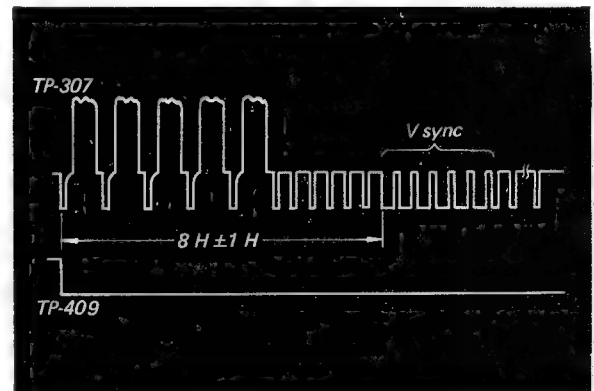

Fig. 7-4.
3. Adjust R411 on the SV4 Board so that the interval between the leading edge of vertical sync and leading edge of the 25 PG pulse is $8 H \pm 1 H$ as shown in Fig. 7-4.